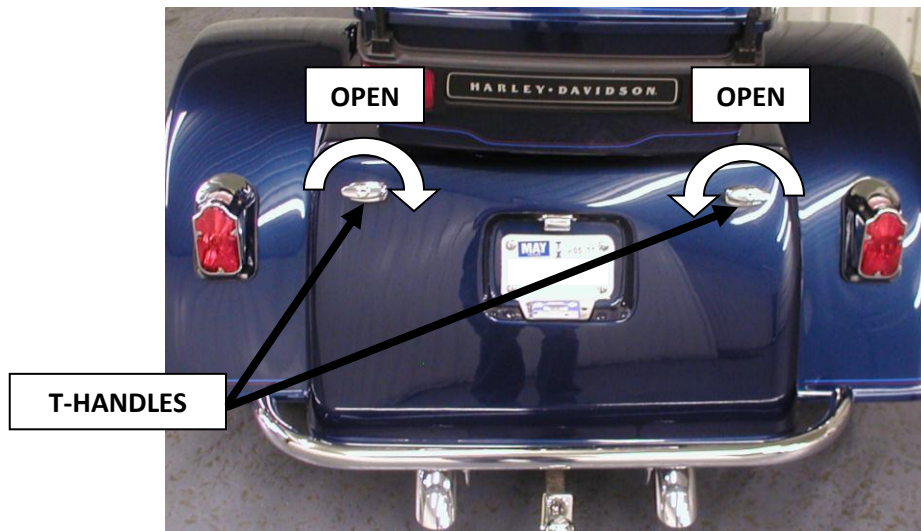

Figure 4: Opening Trunk (Shown with Optional Chrome Nerf Bumper)
The trunk door is opened by rotating the t-handles on the trunk door to unlatch the trunk door. Refer to Figure 4.
- To close the trunk, place your hands on the t-handles, press the door shut, and rotate the t-handles in the reverse direction shown in Figure 4.